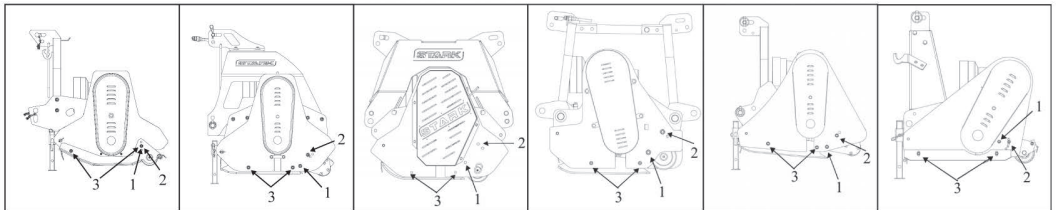

Fig. 6. Adjusting mowing height
The mower is adapted to operate in the normal position of the cutting height equal to 30 mm. Shaft copying screws and side skids (KS, KM, KMH, KMH Profi, KDX, KDX Profi and KS Profi, KSH Profi) are used to adjust the cutting height. To adjust cutting height, release screw (1) and unscrew screws (2) on both sides (Fig.6). Unscrew screws (3) on both sides to adjust the position of the runners. Adjust the height of the shaft copying. Stiff the parts in the set position. Setting in a lower opening will allow the maximum cutting height. Tighten the screws (2) on selected holes. Fasten the screws (1) and (2).